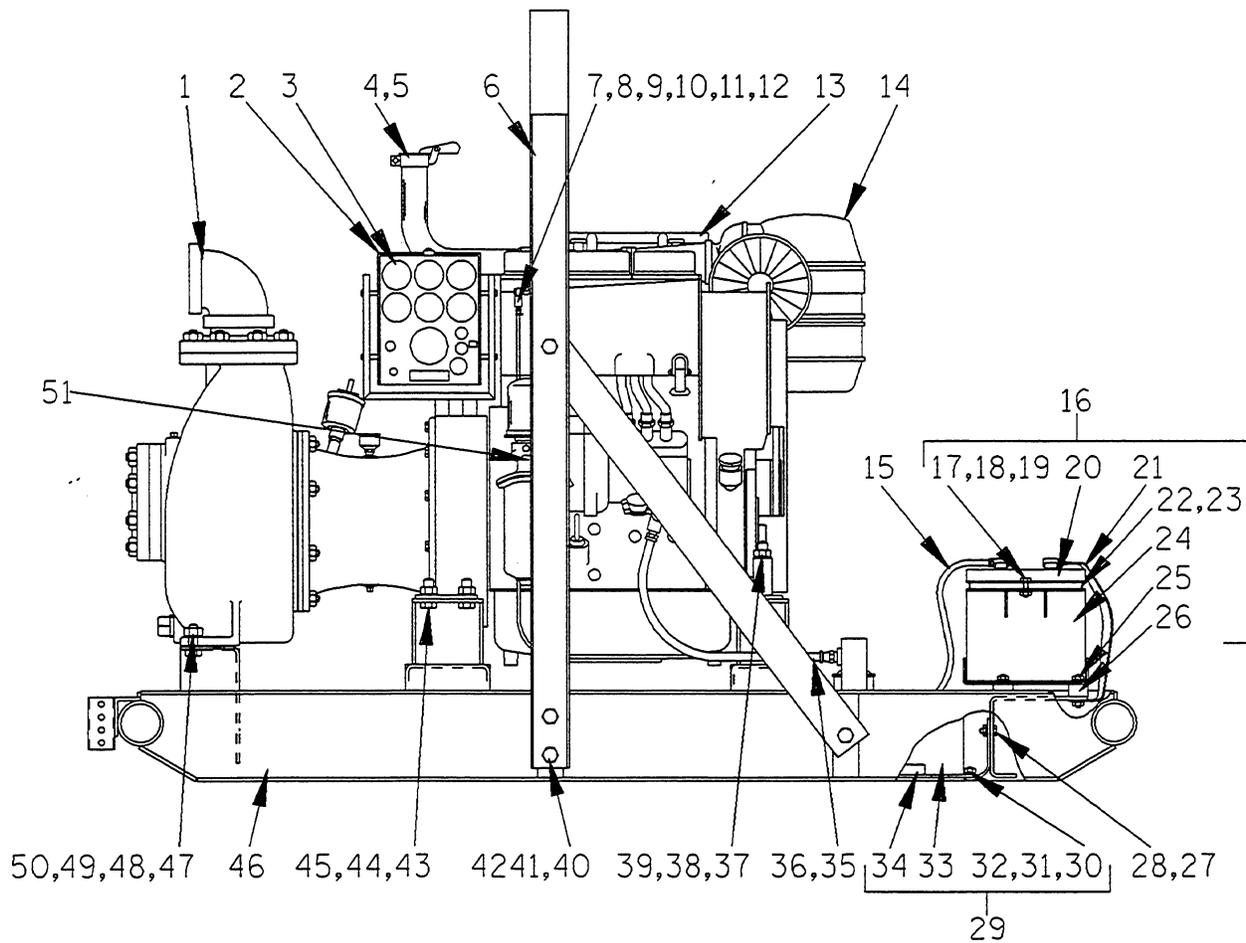

Figure 1. Pump Model 84A2-F3L
This pump requires little service due to its rugged, minimum-maintenance design. However, if it becomes necessary to inspect or replace the wearing parts, follow these instructions which are keyed to the sectional views (see Figures 1, 2 and 3) and the accompanying parts lists.
To service the impeller (2), seal assembly (3), or seal plate (36), the pump casing must be separated from the base and intermediate. See Figure 1, and remove the hardware (47, 48, 49 and 50) securing the pump casing to the base. Tie and tag any leveling shims used under the pump casing mounting feet to ease reassembly.